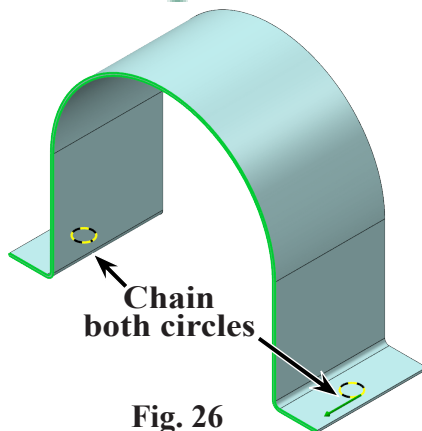

Fig. 26
Step 2. Click **both circles** to chain, **Fig. 26**.